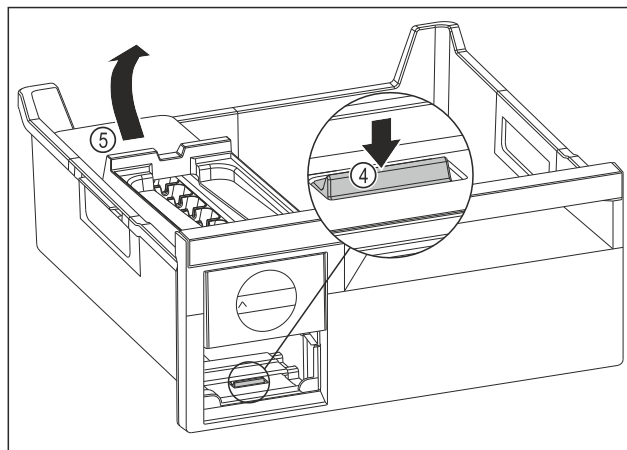

Fig. 124
- ▶ Removing the EasyTwist-Ice body: Use your finger to push the tab Fig. 124 (4) down and use your other hand to lift the EasyTwist-Ice body Fig. 124 (5) from behind at the same time.